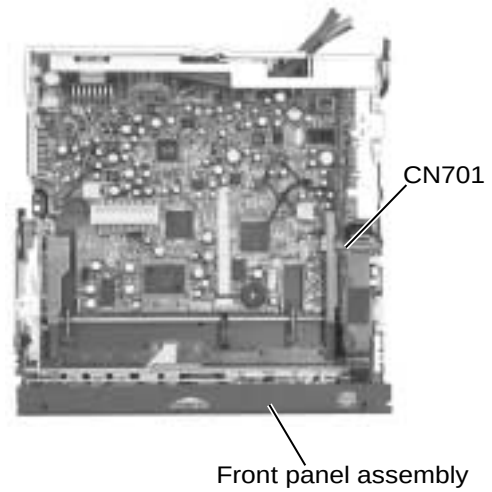

Fig.8
■ Removing the front panel assembly (See Fig.8,9 and 10)